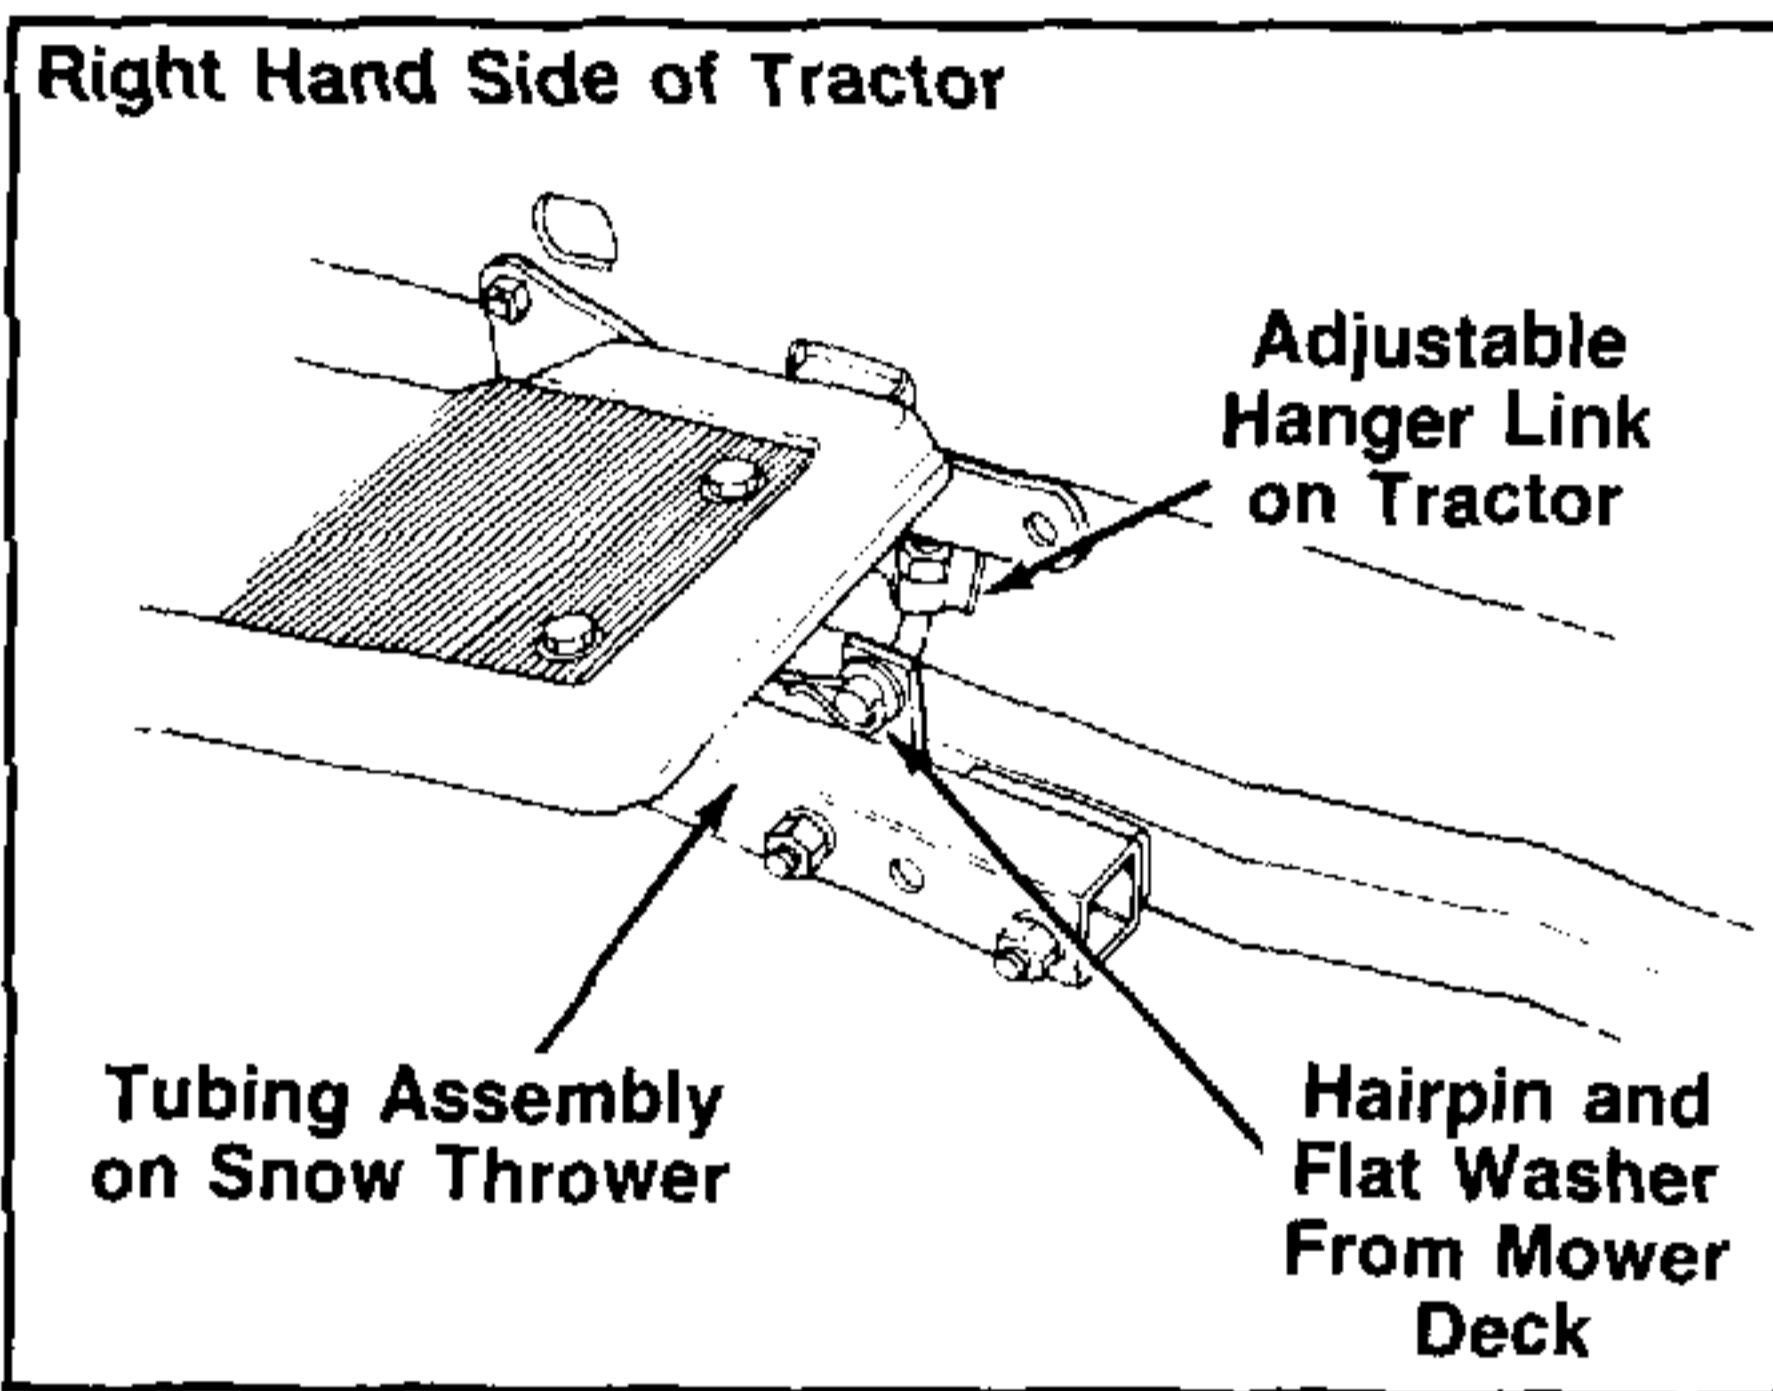

FIGURE 5.
8. Secure the adjustable hanger link on right hand side of tractor with flat washer and hairpin cotter (which came with the mowing deck). See figures 5 and 6.